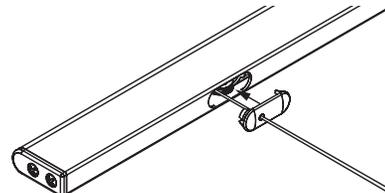

Figure 10
- ⑯ Tighten the smaller screw to lock the position of the roller. Re-test the fabric tracking and re-adjust if needed.
⑰ Set the upper- and lower-limits of the unit’s operating range by attaching the Stop Balls to the chain. Insure that the hem-bar does not contact the fabric bundle, operator roller, pulleys, etc. throughout its range of operation.
⑱ Trim any excess draw cable from both ends.
⑲ Click the hem-bar Pulley Caps into place (see Fig. 10).